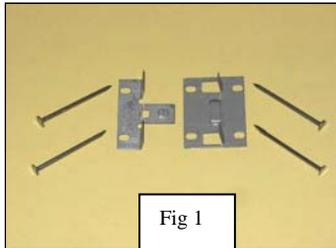
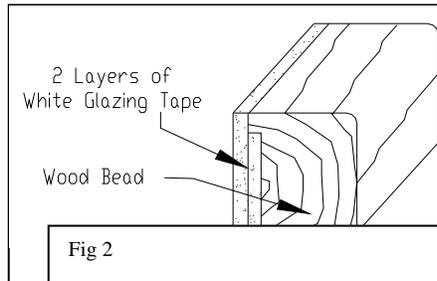

Fig 1
Fig 2
1. 45-Minute full-lite doors are supplied with the lite cutout pre-machined by Eggers Industries. The perimeter of the cutout is machined with recessed pockets for 2-part metal glazing clips. The glazing clips and their nails (Fig 1), together with the bead nails, will be sent loose as an accessory kit. The wood glazing bead will be mitered and supplied loose, with the required glazing tape applied (Fig 2).